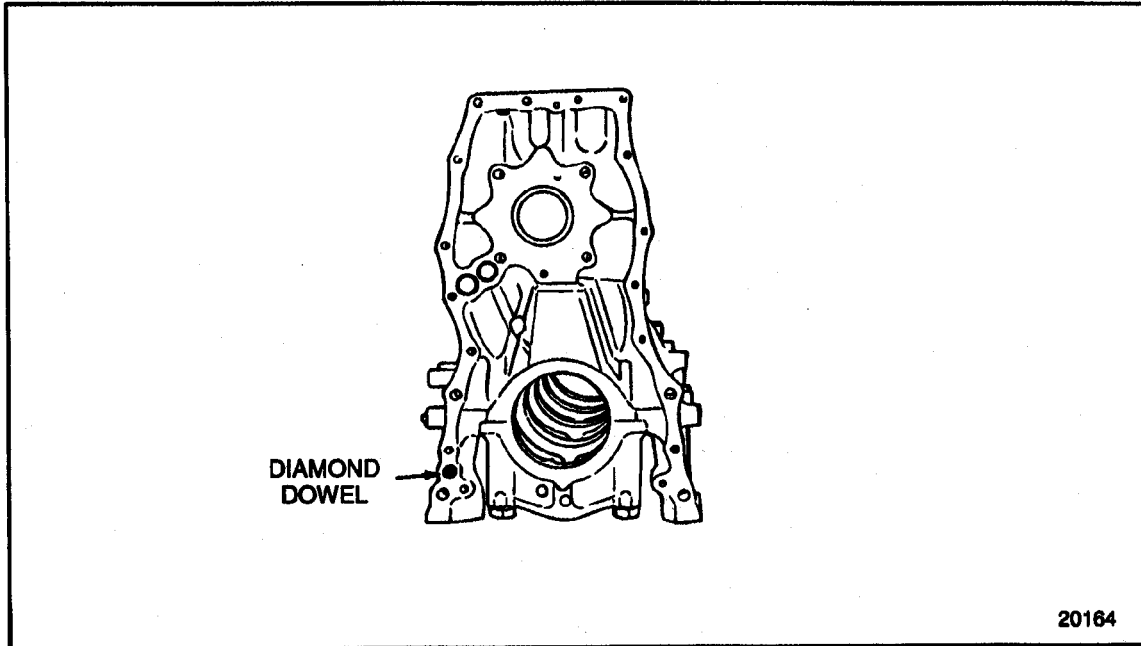

Figure 1-196 **Cylinder Block Locating Diamond Dowel**
3. Using a suitable lifting sling made of cloth or leather, position the bull gear and camshaft idler gear opening of the gear case over the gear case alignment plug. Index the hole in the gear case mating surface with the diamond dowel at the lower left corner of the cylinder block. See Figure 1-196.